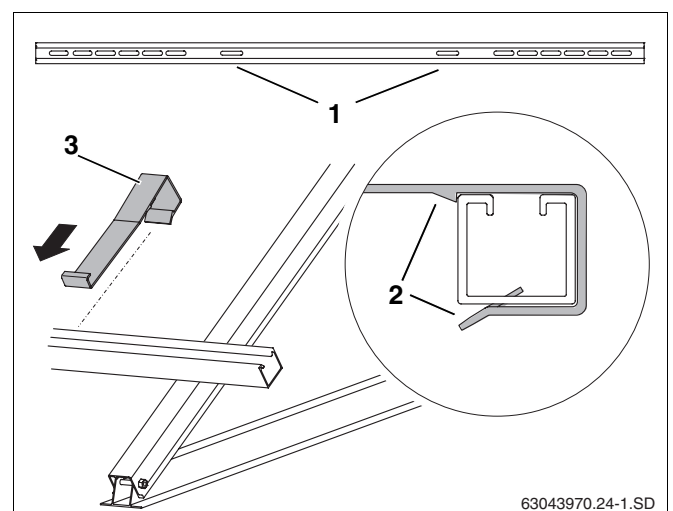

Fig. 36 Attaching anti-slip protection
- ▶ Push each anti-slip protector (Fig. 36, **Item 3**) into the innermost slotted holes (Fig. 36, **Item 1**) over the profile rails until it clicks into place (Fig. 36, **Item 2**).